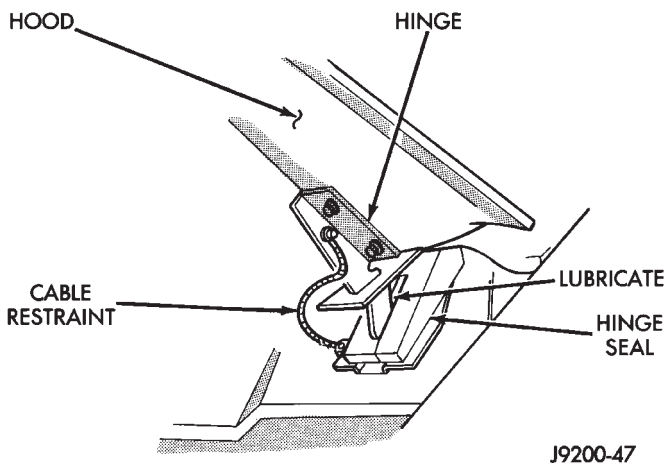

Fig. 11 Hood Hinge Lubrication—XJ Vehicles
- liftgate/tailgate/hood hinges (Fig. 11),